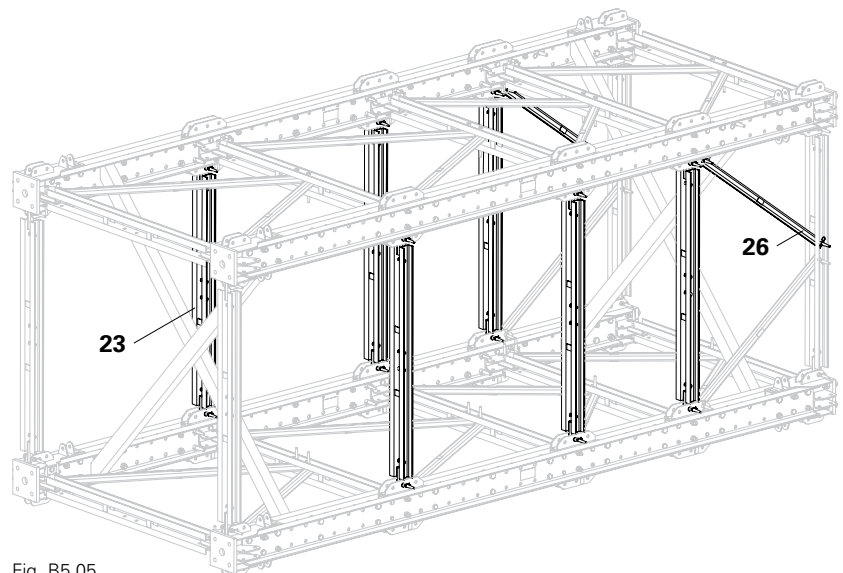

Fig. B5.05
1. Connect the second Diagonal Strut VST (26)* to the Bracing Connector VST (8) and Horizontal Ledger VST 200 (23) using 1x Fitting Pin Ø 21 mm (9) each.
2. Install the required Horizontal Ledgers VST 200 (23). (Fig. B5.05) (see Section B3)